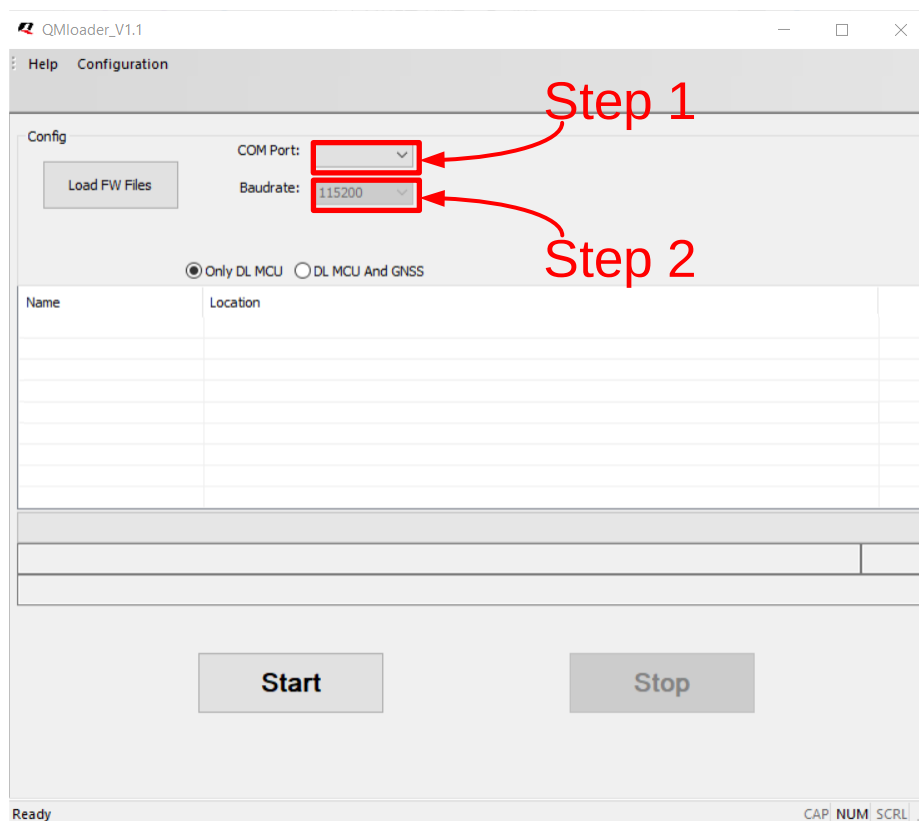
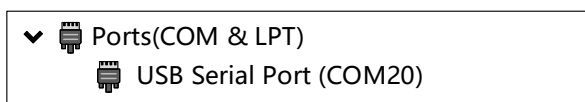

Figure 25: Operation Steps of Firmware Upgrade Tool
Figure 26: USB Serial Port
2. Select the “**COM Port**” marked by Step 1 in **Figure 25** according to the COM port number that you get from PC Device Manager in **Figure 26**. If the desired port is not in the option, please close and restart QMloader.
3. Select the default “**Baud rate**” (115200 bps) marked by Step 2 in **Figure 25**, but it can also be customized to suit your needs.